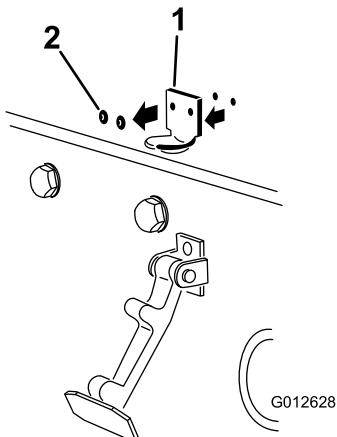

Figure 4
2. Remove the 2 rivets securing the hood-latch bracket to the hood (Figure 4).